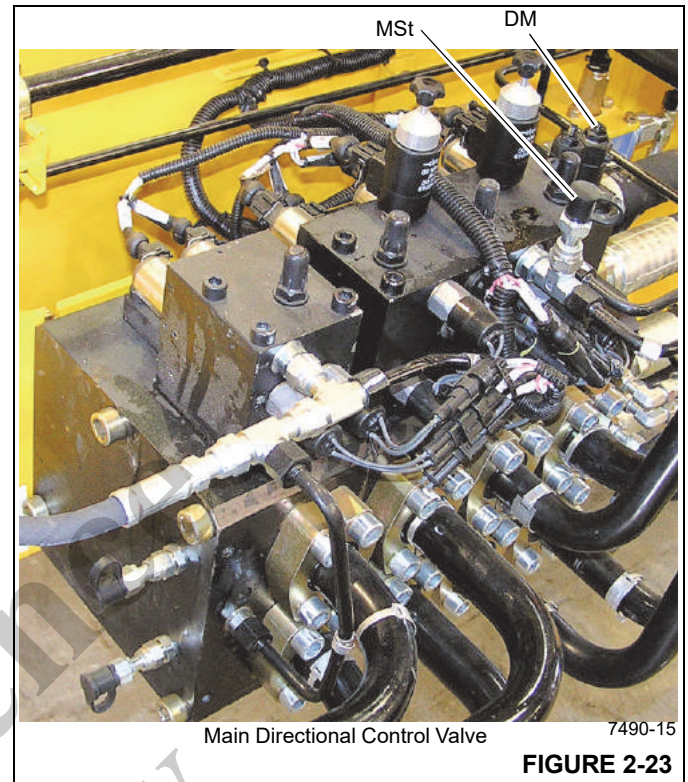

FIGURE 2-23
1. Install a pressure check diagnostic quick disconnect with gauge onto test fitting at the MSt port of the main directional control valve (Figure 2-23).
3. If necessary, adjust pressure at DM to 508 ±25 psi (35 ±2 bar) (Figure 2-23).